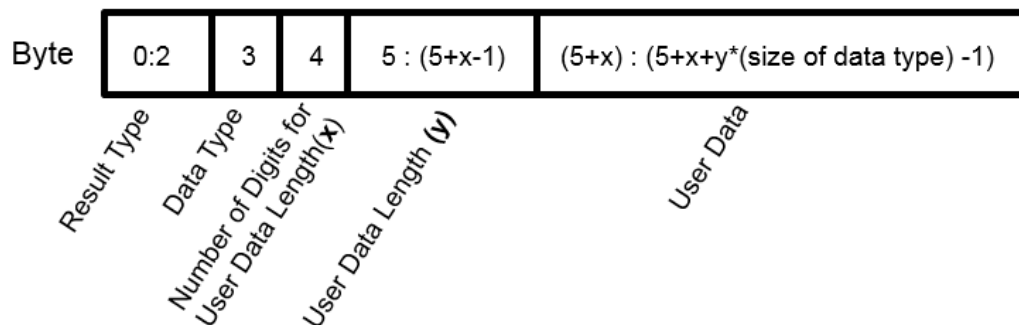

Figure 8-5: User data content format
- Content ('user data content'), see also Figure 8-5. As many bytes as 'LLLLL' specified.